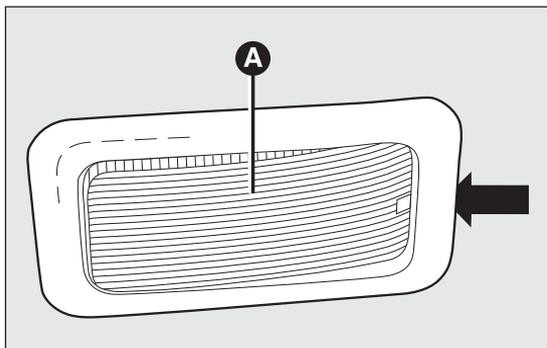

fig. 122
- using the screwdriver provided, extract the roof light A fig. 122 working in the point shown by the arrow;